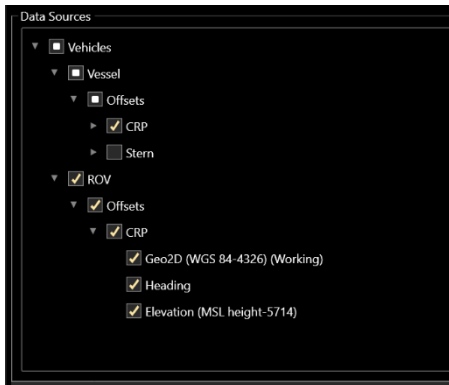
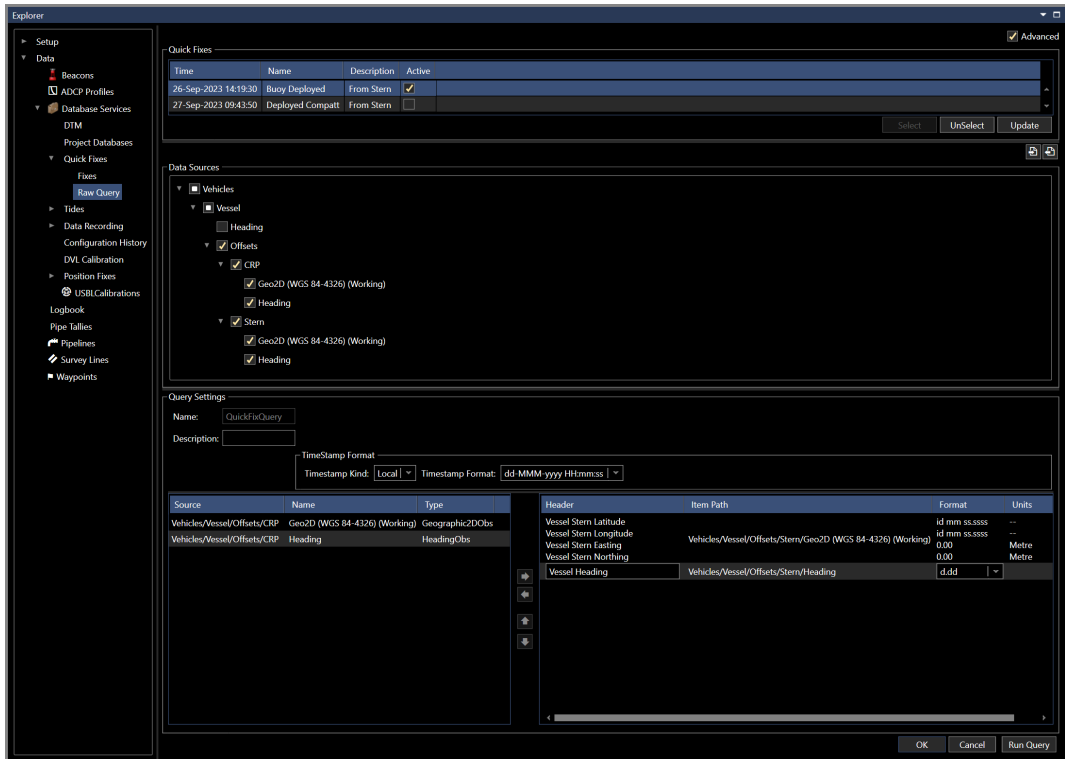

FIGURE 14-54 QUICK FIXES - RAW QUERY – ADVANCED – DATA SOURCES PANEL
FIGURE 14-56 QUICK FIXES – RAW QUERY – ADVANCED - QUERY SETTINGS – ITEMS TO BE QUERIED
- The **Data** grid (see Figure 14-55) contains in the left panel the data sources selected in the **Data Source** panel (see Figure 14-54) that are available to be queried. The right panel shows the selected items to be queried (see Figure 14-56)